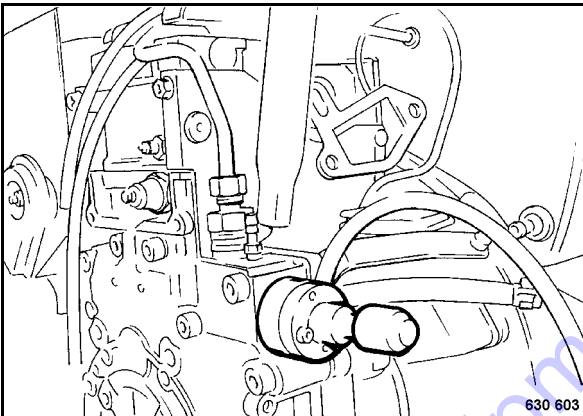

Fig. 80
- Unscrew the oil shut-off valve (Fig. 80).